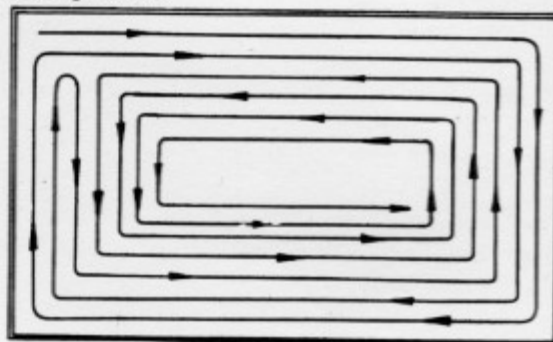

Figure 52 Mowing Pattern
- On side discharge mower only, turn to the right when beginning to mow large open areas to discharge clippings away from borders such as sidewalks, fences, driveways, etc. After making two or three passes this way, mow in the opposite direction turning to the left to finish. See Figure 52.